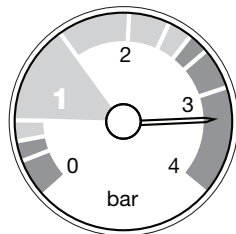

Fig. 6
1. The normal operating water pressure is between 1 and 2.5 bar (Fig. 4). If the pressure exceeds 3 bar the safety pressure valve will operate and a fault is indicated (Fig. 6). Contact your installer.